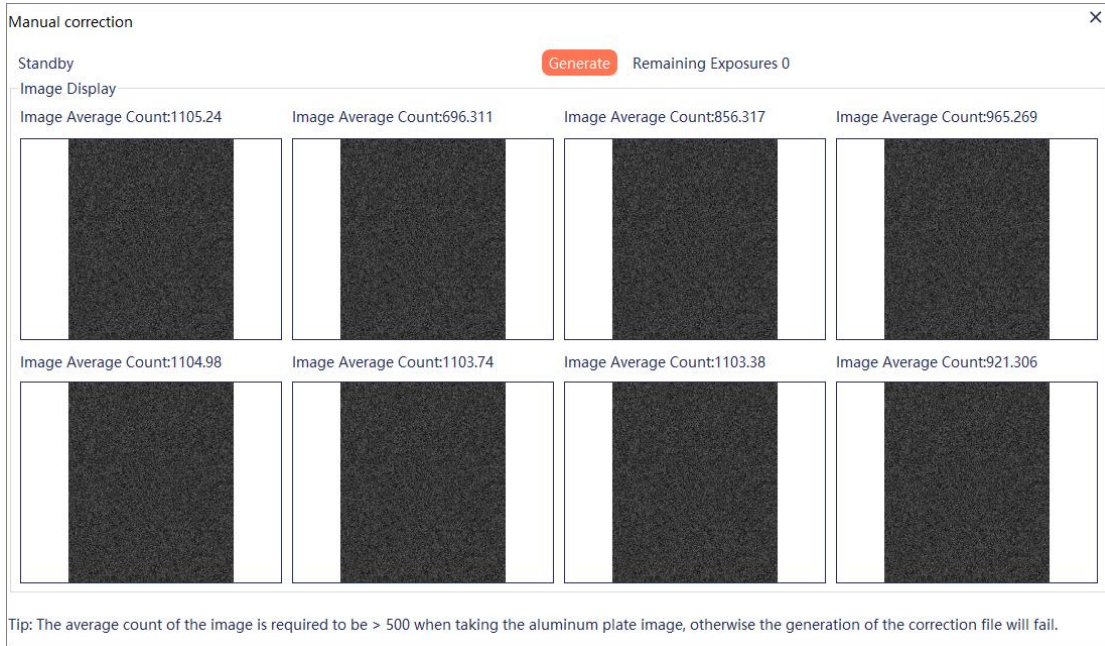
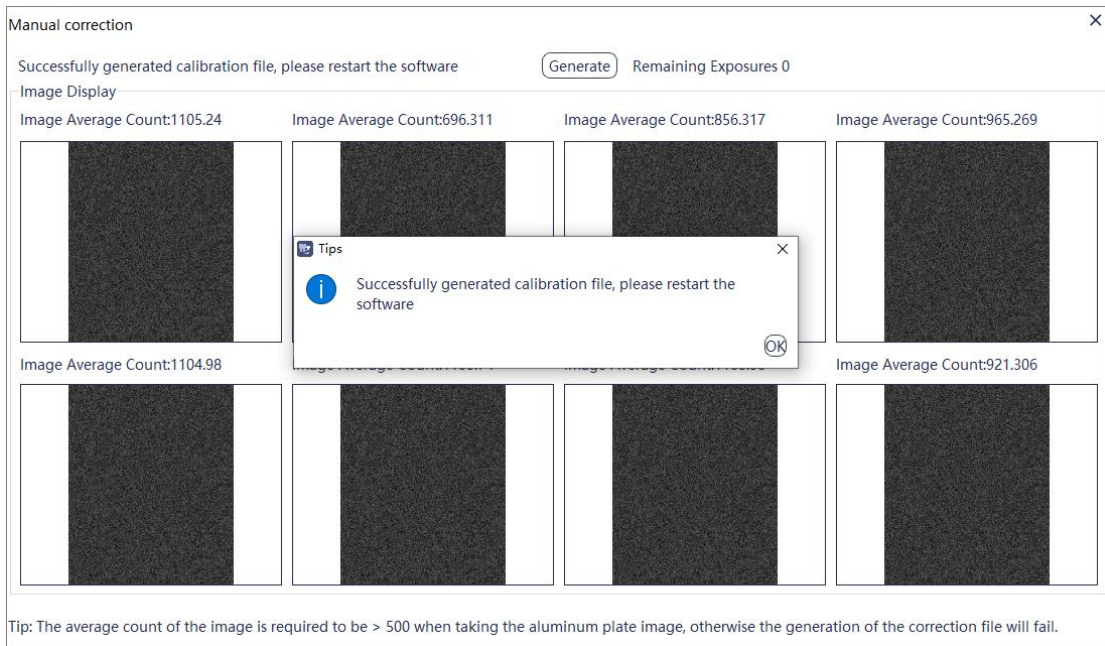

Figure 64: Calibration complete
Figure 65: Loading correction file
(4)Click the [Generate] button, After success, the software will automatically restart. As shown in Figure 64 and Figure 65 below: